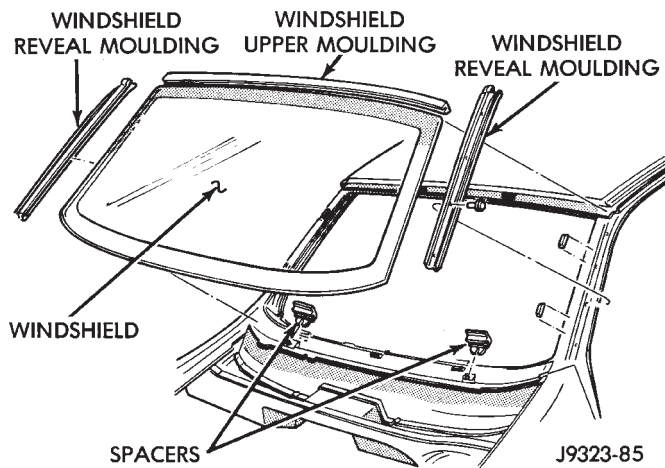

Fig. 3 Windshield Moldings
- (3) Remove windshield moldings (Fig. 3). Pull outward on molding at the bottom of A-pillars using pliers.